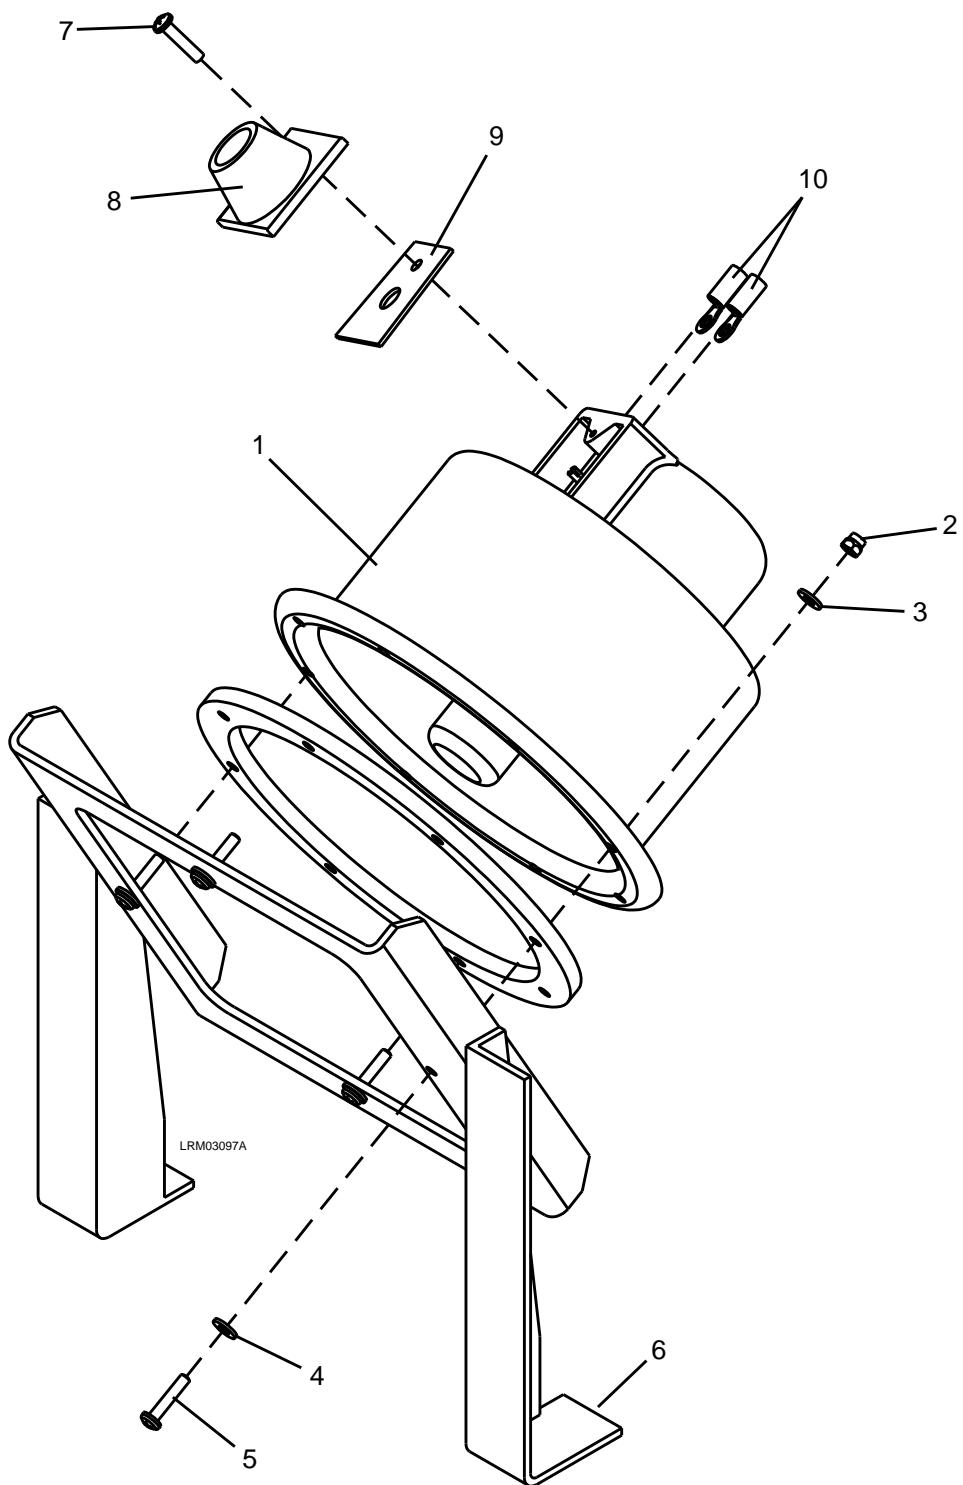

Figure 7-70: Exterior Speaker
1. Disconnect the #6 electrical connections (10) from the Exterior Speaker (1) by removing the screw (7) from the cover (8) and the cover gasket (9). See Figure 7-70.
2. Remove the four M4 ESNA nuts (2) and M4 plain washers (3), M4 x 20 screws (5), and M4 plain washers (4).
3. Carefully remove the Exterior Speaker (1) from the mounting bracket (6).